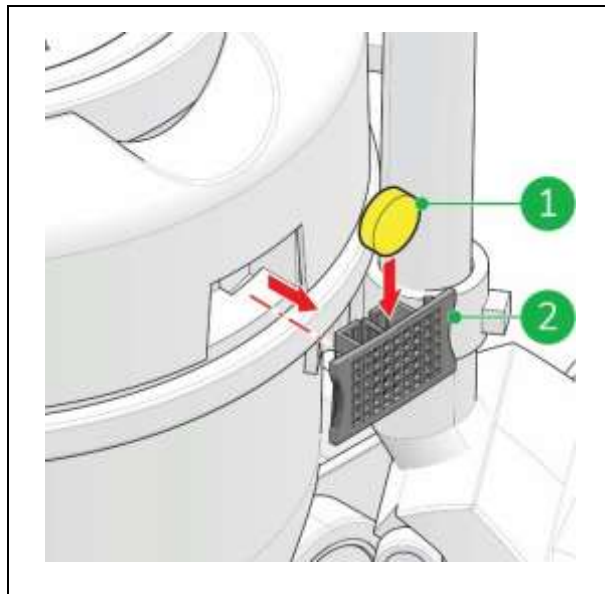

Figure 25
1. Pull out the tablet holder (fig 25, pos 2) from the head of the Dry Plus .
3. Insert the new fragrance tablet (fig 25, pos 1).